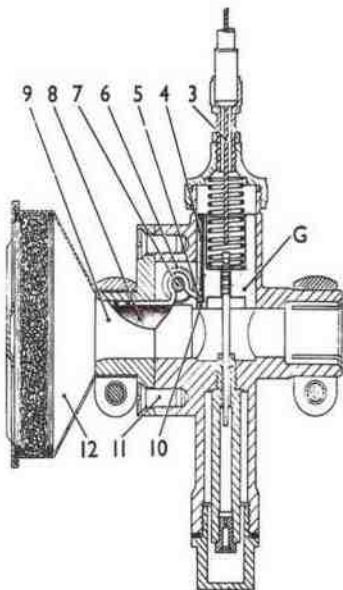
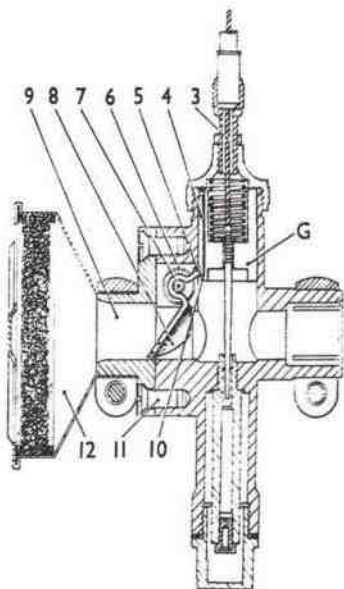

Fig. 3
Fig. 4
To withdraw the throttle valve one simply unscrews the mixing chamber cap (C), when the throttle valve assembly complete can be pulled straight out. The important thing to remember however, is when assembling same, (having removed the air filter) that the strangler (8) must be fully depressed to its closed position (see fig. 4, page 3) with the aid of a screwdriver or some blunt instrument introduced through the air intake of the carburettor. Then, holding it (8) in this fully closed position the throttle (G) should be introduced into the mixing chamber, and the mixing chamber cap (C) screwed on a few threads. The screwdriver or suchlike can then be withdrawn from the main air intake which will allow the beak strangler to return to its fully open position, and the throttle slide (G) will then be quite free in the body. The mixing chamber top (C) can then be fully tightened and the carburettor is ready for operation.
STRANGLER OPERATION. Dealing with the mechanical operation of the strangler (8) this is a spring loaded beak situated in the air intake of the carburettor, which has a tail (5) which engages with a slot machined in the throttle valve (4). This beak strangler is normally held by a return spring (6) in a fully open position, that is, offering no obstruction to the passage of air through the main air intake. When the throttle valve (G), however, has moved up to its full throttle position (see fig. 3), the end of the slot previously referred to presses against a tail (5) on the other end of the strangler (8), with the result that on over-opening the throttle valve (see fig. 4 on page 5) this firmly closes the strangler valve and restricts the passage of air through the main air intake.
| M. Gauge Petrol Filter. | Screw for 325.1 (Fig. 4). |
PREPARATION. Follow the Engine Makers' instructions about fuel mixtures, etc., verify that the ignition is in good order and that the sparking plug is clean. Now from the carburettor point of view check up to see that when the throttle lever is open and the trigger is holding against projection on the lever base, that the throttle is wide open (see fig. 3 on page 4). To do this remove the air filter (12) and look inside. If the throttle is not wide open then adjust the cable adjuster (A) to bring the bottom of the throttle level with the crest bore in the mixing chamber.
Observe at the same time the action of the strangler (8) by depressing the trigger (2) on the lever (1) and over-opening the throttle (see fig. 4 on page 5). Bring back the throttle lever to the shut position and note that the throttle shuts easily.